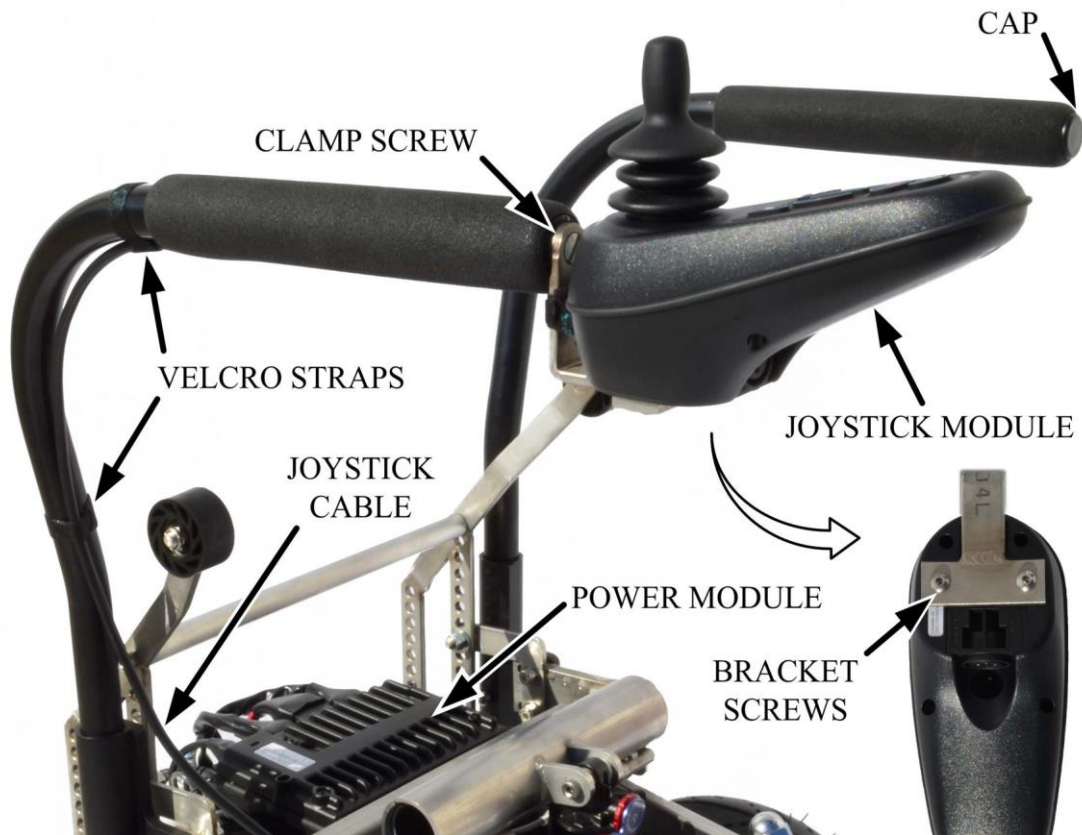

Figure 12.
2. Disconnect joystick module cable from power module (Figure 12).
3. Remove Velcro straps securing joystick module cable to armrest (Figure 12).
4. Loosen bolt securing joystick module bracket clamp in armrest and slide clamp out of armrest (Figure 12).
5. Remove cap from opposite armrest and re-install on armrest without joystick module installed (Figure 12).
6. Attach joystick module to joystick module bracket using two bracket screws (Figure 12).
7. Secure cable to armrest using Velcro straps (Figure 12).
8. Connect joystick module cable connector to power module (Figure 12).